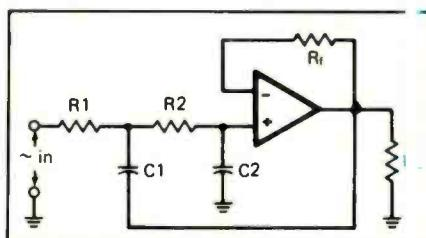

Fig. 3. A second-order, low-pass unity-gain active filter.
• **Low-Pass Filter.** For the present let's concentrate on the Butterworth filter, whose damping ratio is 1.41. Component values affected by this ratio depend on what kind of circuit you're using. A low-pass unity-gain filter circuit is shown in Fig. 3. Note in this arrangement that C_2 goes to ground, while C_1 provides a path for some of the op amp's output to be fed back to the input of the filter network made up of R_2 and C_2 . This arrangement, not possible in a passive filter, allows you to do away with the inductor in an active filter.
With the Fig. 3 circuit, the damping ratio is used to determine the values of C_1 and C_2 . We'll still compute (or scale from the reference filter), but this time the result will be only the starting point—not the final value—for each capacitor. In essence, what you'll get are the "average" values for C_1 and C_2 . The actual values of these capacitors are calculated using the average values and the damping ratio figure.